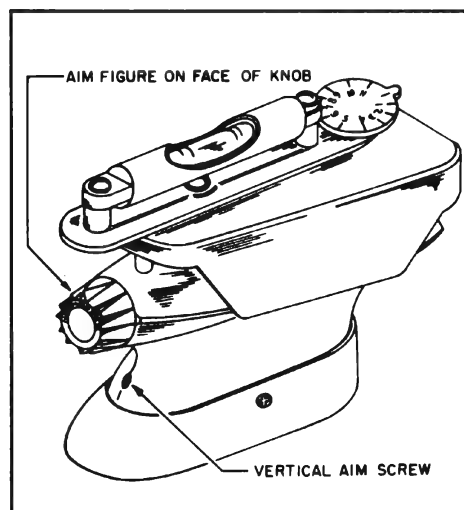

Figure 11-168—Aiming Device Installed
- (d) Set Aiming Device No. 6 on top of phototube unit as shown in Figure 11-168.
- (1) The three points on aiming device must be resting on top of phototube unit.
- (2) The aiming device must be touching front of phototube unit.